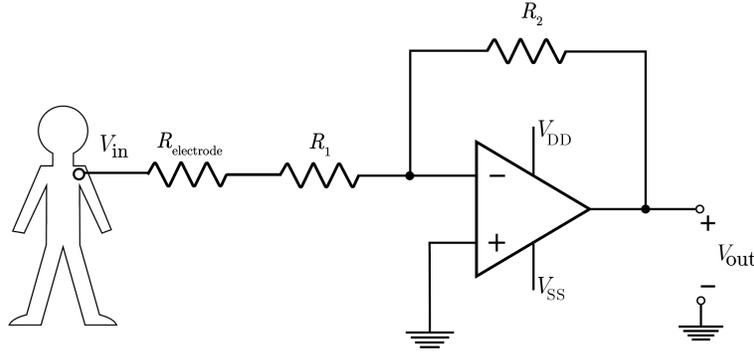

Figure 5: An alternative ECG op-amp circuit.
- (b) (4 points) A friend of yours is also working on an ECG amplification circuit, and shows you their design in Figure 5. Their design uses $R_{\text{electrode}} = 1 \cdot 10^3 \Omega$, $R_1 = 1 \cdot 10^3 \Omega$, and $R_2 = 1 \cdot 10^6 \Omega$. They claim their circuit gives, $V_{\text{out}} = -1000 \cdot V_{\text{in}}$. **Is their claim true?**